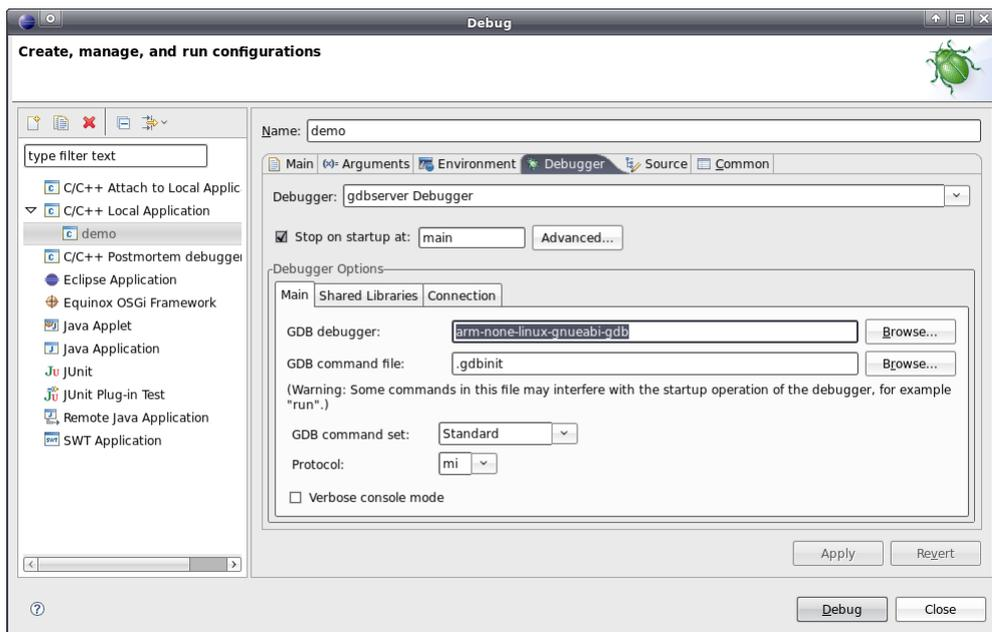

Figure 59: Selecting the GDB Debugger
2.2 Selecting the GDB Debugger to be used (see Figure 59)
Host-sided use the GDB Debugger that is included in the GNU-Crosscompiler Toolchain for ARM9 processors. To select it, activate Tabsheet "Debugger". Enter GDB Debugger of the Crosscompiler Toolchain in section "Debugger Options" in Sub-Tabsheet "Main" area "GDB debugger" (see Figure 59; for the above example this would be: "arm-none-linux-gnueabi-gdb").